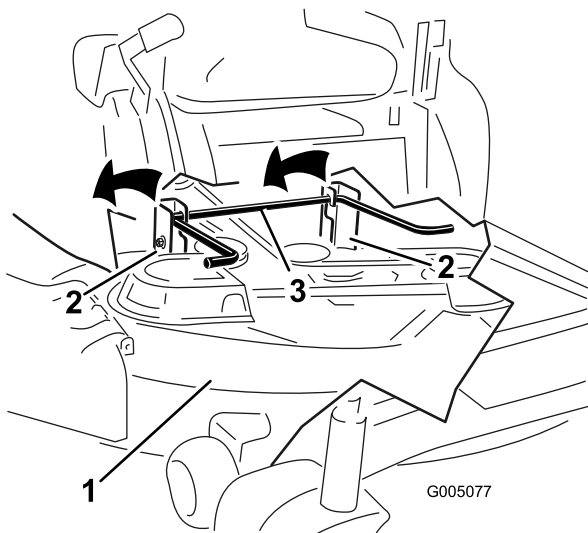

Figure 45
- Lift the mower and hanger brackets clear of the rear lift rod and lower the mower carefully to the ground (Figure 45).
5. Lift the rear of the mower deck and guide the hanger brackets over the rear lift rod (Figure 45).